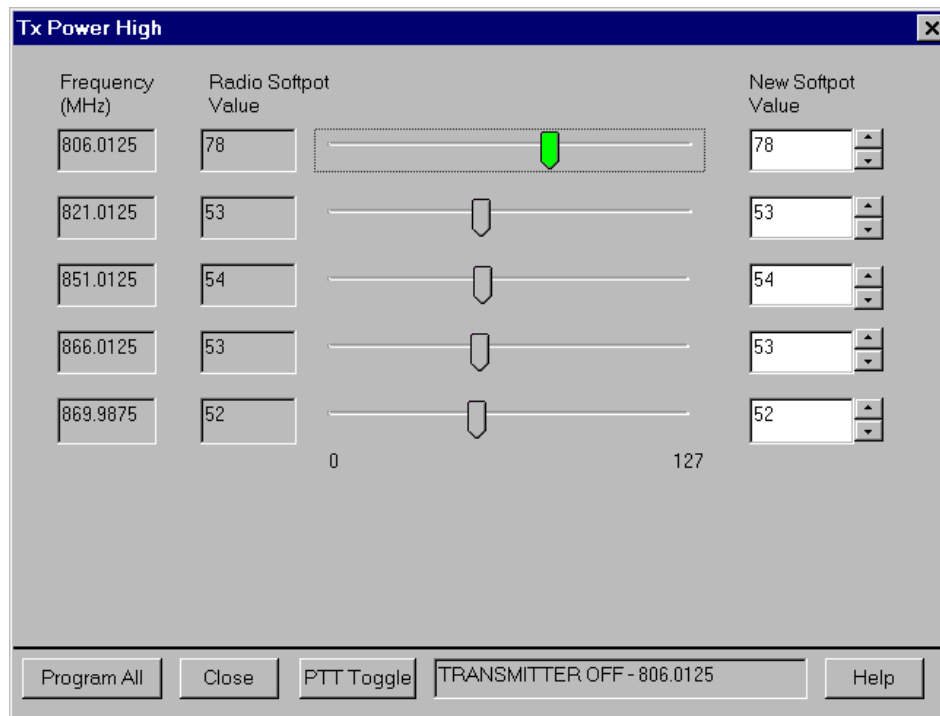

Figure 6-14. Typical Transmit Power Alignment Screen
1. Select the **TX Power (High, Mid, or Low)** alignment screen. The screen will indicate the transmit frequencies to be used. See Figure 6-14.